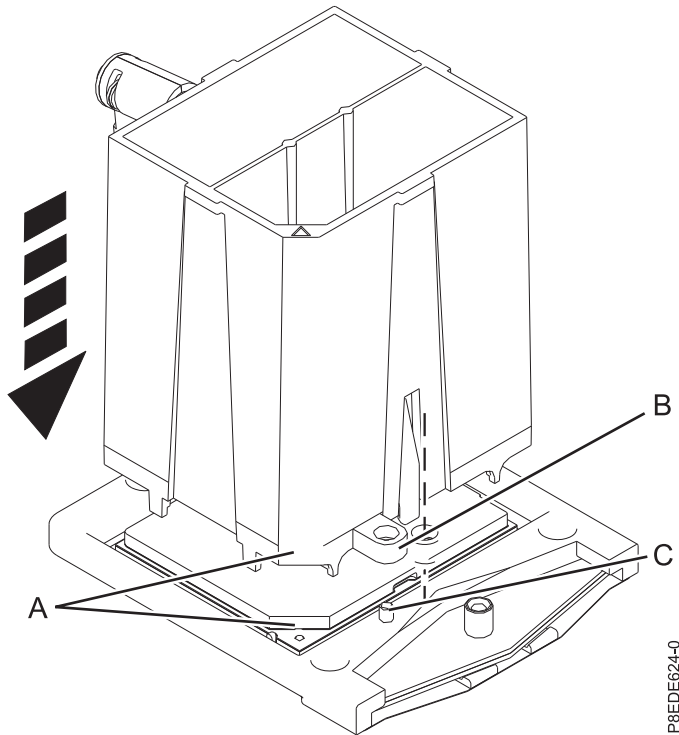

Figure 8. Lowering the removal tool onto the system processor module
10. Lower the supplied removal tool onto the system processor module. The beveled corner (A) of the tool must align with the beveled corner of the system processor module. Align the tabs (B) of the tool with the pins (C) of the processor socket. See Figure 8 on page 10.